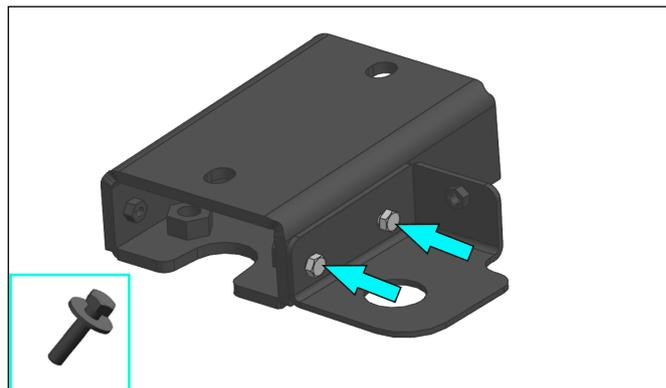

Fig.25
25. Install intercooler bracket (item 42) on recovery point bracket (item 41) and fix it using bolts M6x20, washers 6 (item C, H) (fig.25).